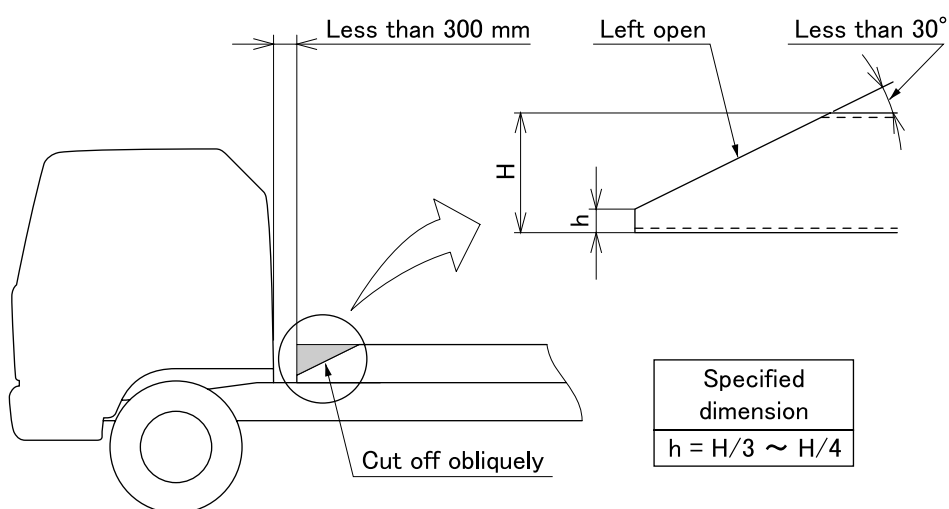
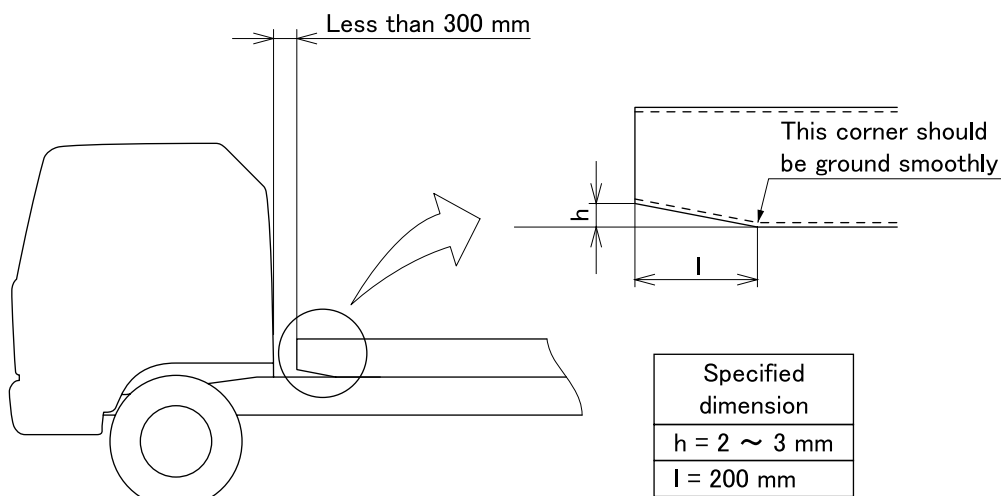

Fig. 2
Fig. 3
- If it is difficult to shape the front end of the mounting frame as described in Fig. 2, cut it to the shape as shown in Fig. 3 before installation.